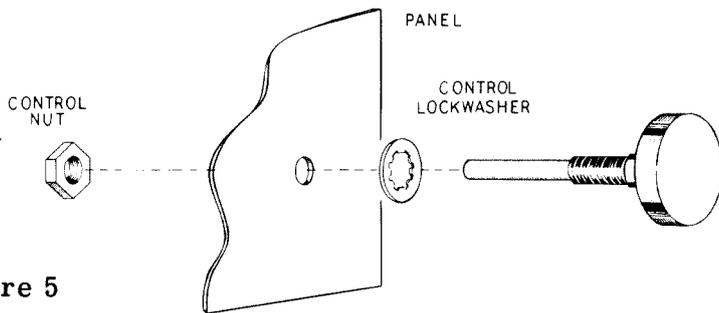

Figure 5
- (✓) Mount the 600 Ω oscillator control with a control lockwasher and a control nut. See Figure 5.